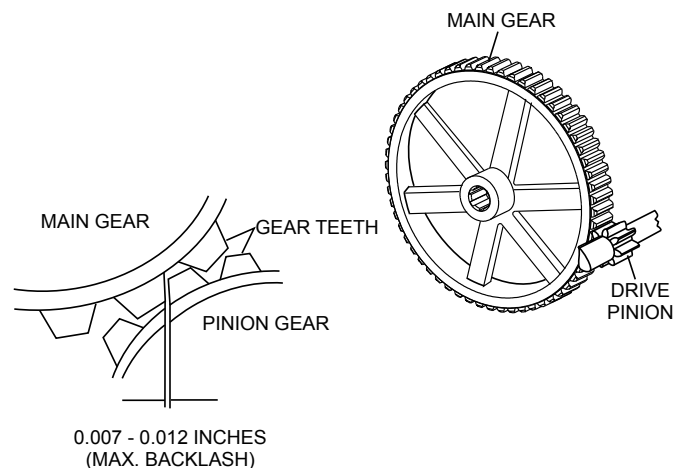

Figure 33. Drive Pinion and Main Gear (Backlash)
3. Using your hand, slightly move (rock) the drive pulley back and forth to determine the amount of backlash. Insert feeler gauge between gears to determine backlash distance. Backlash should range between 0.007 - 0.012 inches (Figure 33).
- There are two grease (Figure 33) fittings at each end of the electric motor that will require lubrication. Lubricate these fittings about every 16 months.